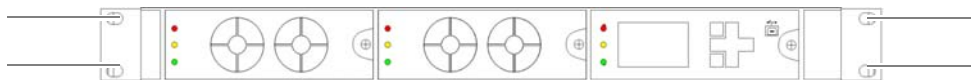

Figure 11.20 Mounting frame mounting screws
- Loosen the mounting screws of the retaining brackets on the front of the equipment rack using a Torx screwdriver size TX 20 x 80, refer to Figure 11.20.